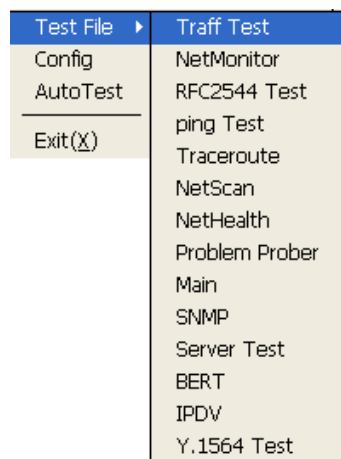

Figure 5.15.6 File Menu
1. **[File]:** Click to select the test files, configuration files or exit data manage, as is shown in figure 5.15.6.